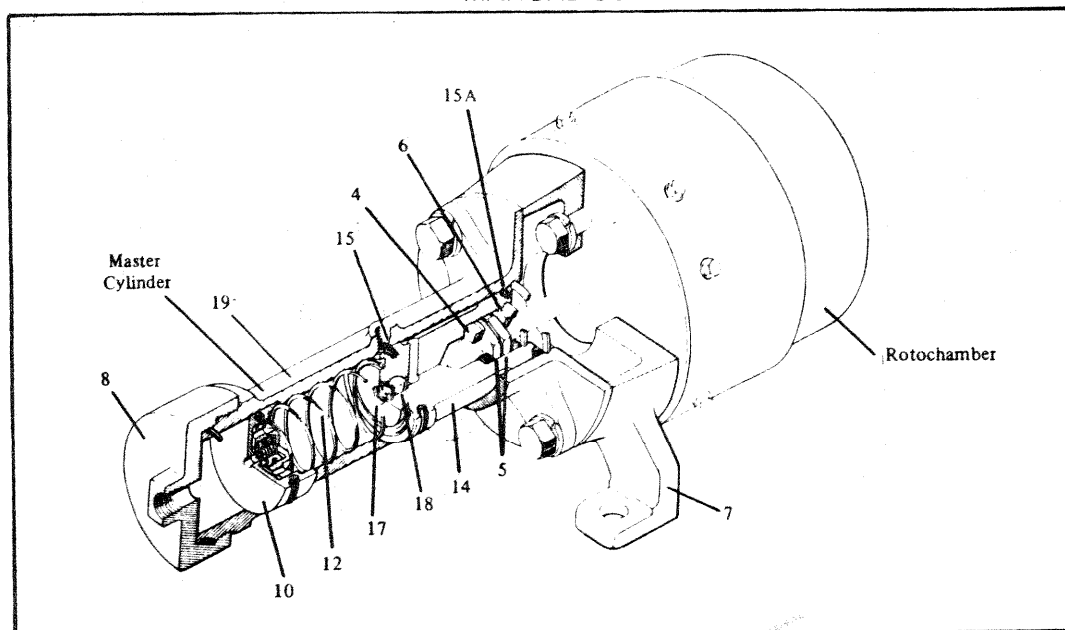

Figure 1. Air and Hydraulic Actuator Assembly
- 1.1 The master cylinder assembly may be shipped separately or assembled to an air actuated rotochamber. As a separate unit the master cylinder assembly is identified as BFGoodrich Part No. 87-. When assembled to a rotochamber, the combination is identified as BFGoodrich Part No. 221-. See Figure 1 for typical assembly of rotochamber and master cylinder.